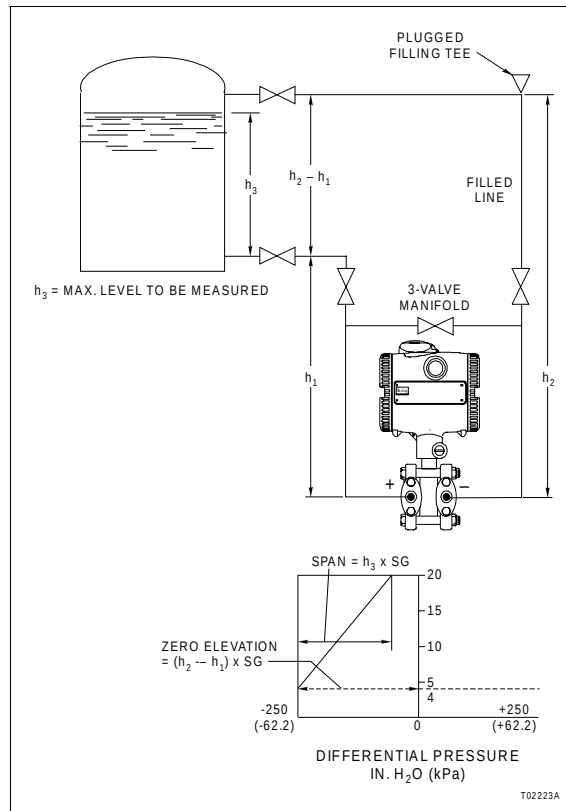

Figure 3-11. Closed Tank (Condensing Atmosphere) Level Measurement
As shown in Figure 3-11, if h_3 is the level of the liquid at any point between minimum and maximum level range values, the transmitter senses the difference in pressure between the fixed head at h_2 and the variable head at h_3 . As the level of h_3 increases, the difference between h_2 and h_3 decreases. The transmitter output decreases with increasing level and decreasing differential pressure. The effect is that of a negative differential pressure that decreases in numerical value as the level rises. This negative differential is simulated for calibration purposes by a positive pressure, increasing in value, imposed on the low pressure (–) connection.
5. The output of the transmitter is proportional to the level of the liquid above the cell multiplied by the specific gravity of the liquid. If the zero point of the desired level range is above the cell, the lower range value must be changed to reflect this. Refer to Section 4 and Appendix B for more information, and to Figure 3-11 for a graphical representation.